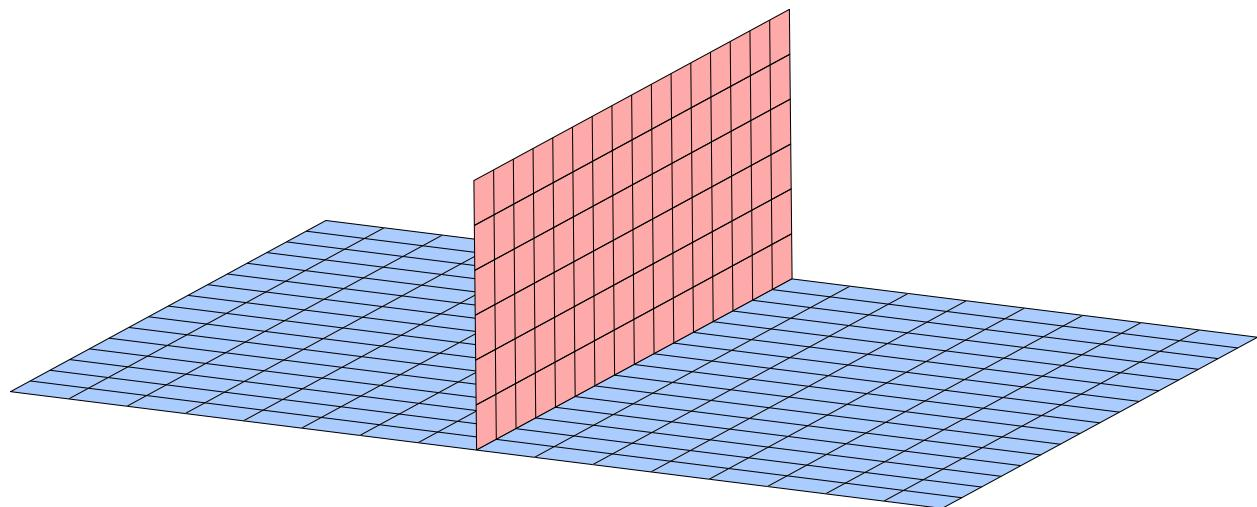

Figure 11-2. Example of a geometry that may require setting IGTOL > 0.0 when the mesh size is equal to or smaller than the thickness.
4. **IGTOL.** Setting IGTOL > 0.0 causes the generation of a list of nodes excluded from contact for each segment. Each list contains nodes within IGTOL*(segment thickness + node thickness) as measured by traveling along the edges of the contact segments (see Figures 11-2 and 11-3). Note that LS-DYNA builds the
This option will improve the behavior for cases when SOFT = 0 or 1, SSTHK = 1 on *CONTROL_CONTACT, and the mesh size is equal to or smaller than the thickness. Without it, spurious stresses/deformation might be observed depending on the geometry (see Figure 11-2).